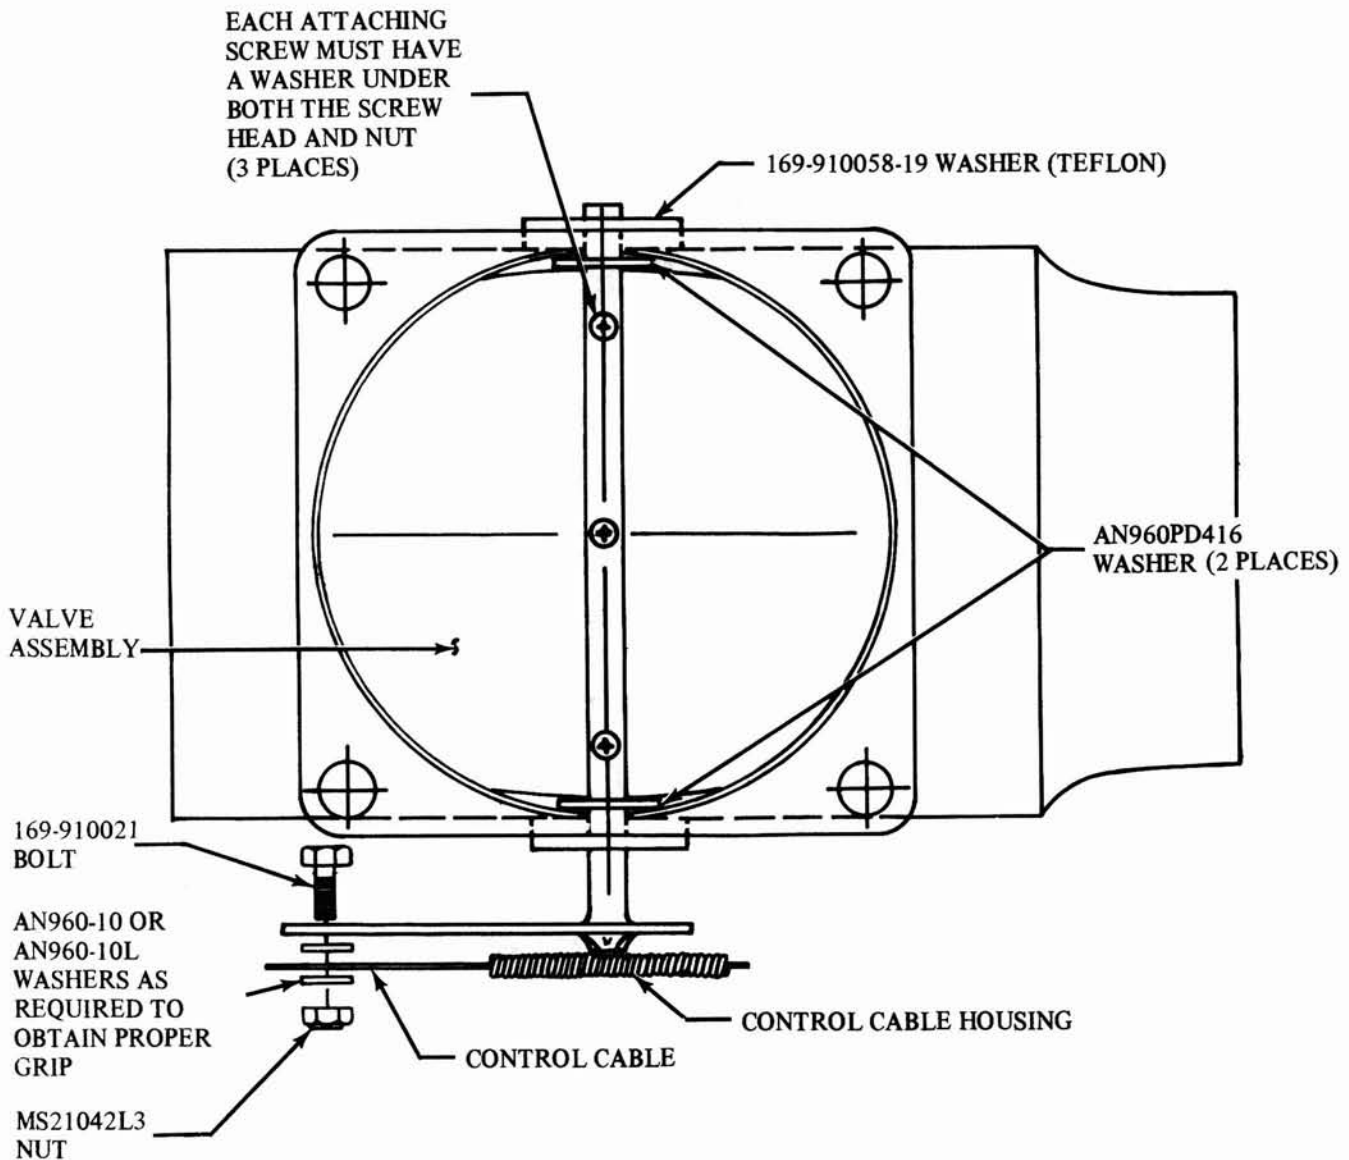

Figure 1. Looking Down on Carburetor Airbox
8. Install the new valve assembly and AN960PD416 washers as indicated in Figure 1.